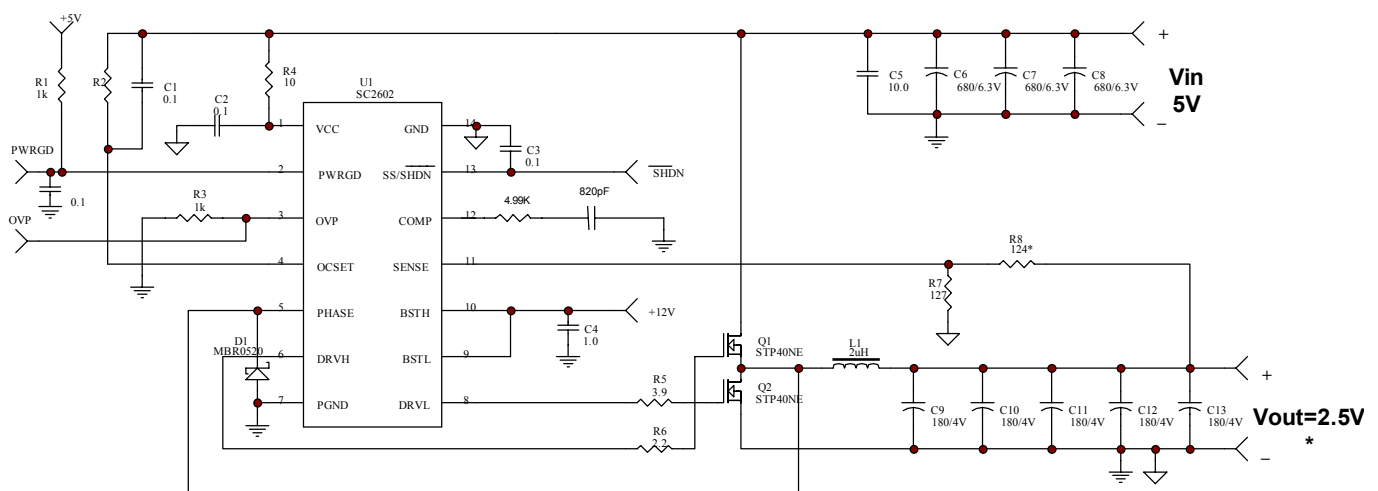

Figure 1.
(1) Specification refers to application circuit (Figure 1).
The output voltage of the synchronous converter is set and controlled by the output of the error amplifier. The external resistive divider reference voltage is derived from an internal trimmed-bandgap voltage reference (See Fig. 1). The inverting input of the error amplifier receives its voltage from the SENSE pin.